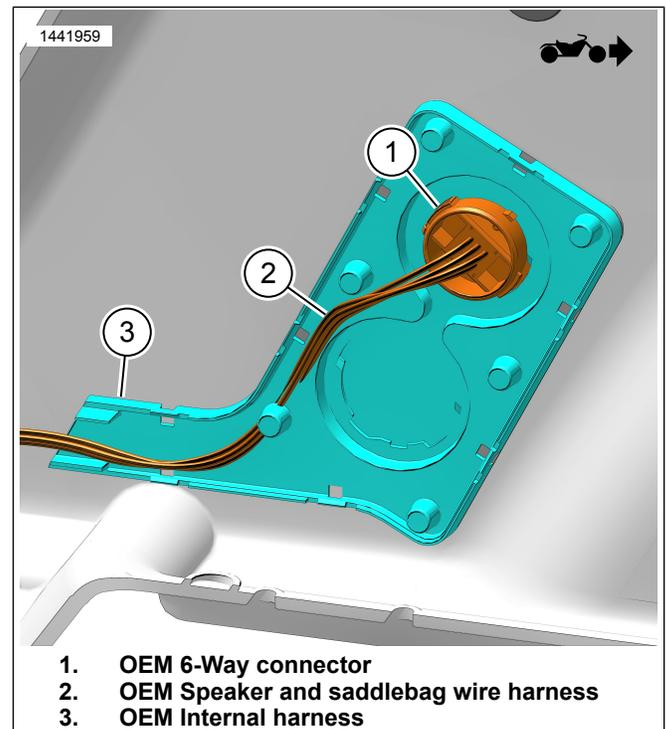

Figure 6. OEM Internal Harness (Inside Saddlebag)
1. Figure 6 Remove right saddlebag OEM components.
- d. Remove OEM 6-way connector [289B] (1). Release detent lock and turn counterclockwise.
- e. Pull speaker and saddlebag harness wires (2) and connectors through hole. Save for later use.
- f. Remove and discard OEM internal harness (3) and screws.
2. Figure 6 Install right saddlebag OEM 6-Way connector (1).
- a. Install connectors, speaker and saddlebag harness wires (2) through hole.
- b. Install OEM 6-way connector [289B] (1). Turn clockwise and until detent locks.